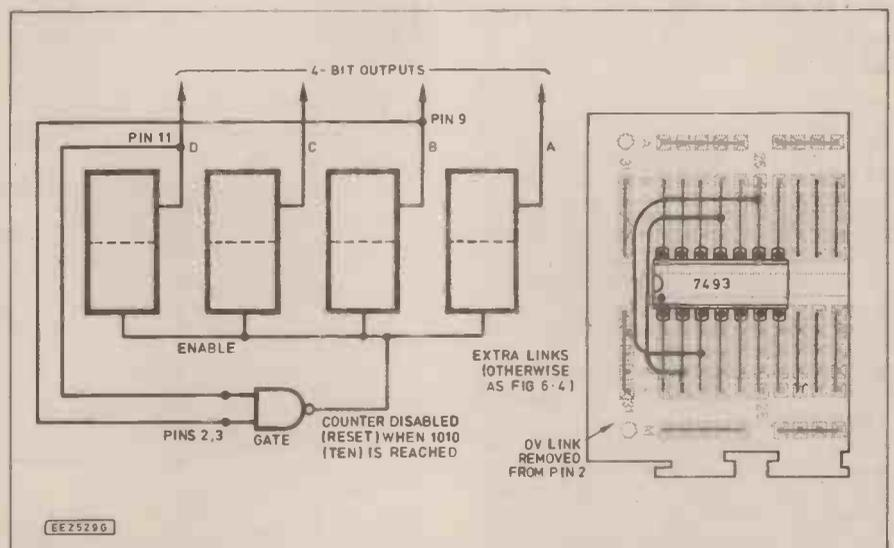

Fig. 6.5. Using the built-in NAND gate to count in TENS.
**T** Exactly. In fact, let's try. Add the links shown in Fig. 6.5. Can you see what they do (we hope)?